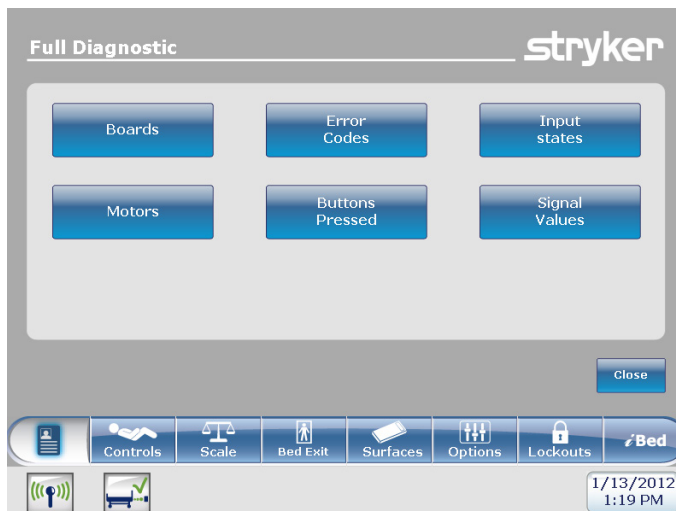

Figure 26: Full Diagnostic Screen
1. From the Configuration Screen, press the Full Diagnostic button. Figure 26 will appear.